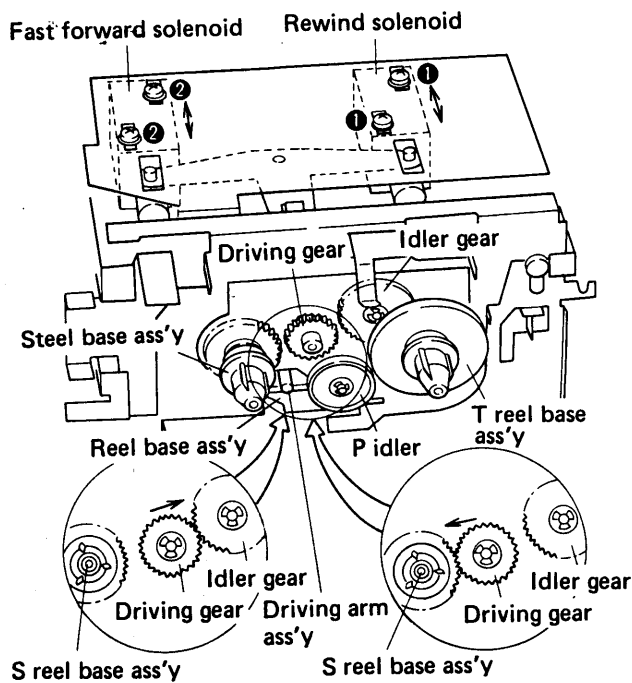

Fig. 8-4 Fast Forward and Rewind Solenoid Adjustment
2. Loosen screws ② and adjust the fast forward solenoid mounting position so that the square hole of the reel base ass'y is flush against the boss of the drive arm ass'y (i.e. 0 separation) as shown in Fig.8-4.
2. Loosen screws ① and adjust the rewind solenoid mounting position so that the boss of the drive arm ass'y fits flush against the square hole of the reel base ass'y (i.e. 0 separation) as shown in Fig.8-4.